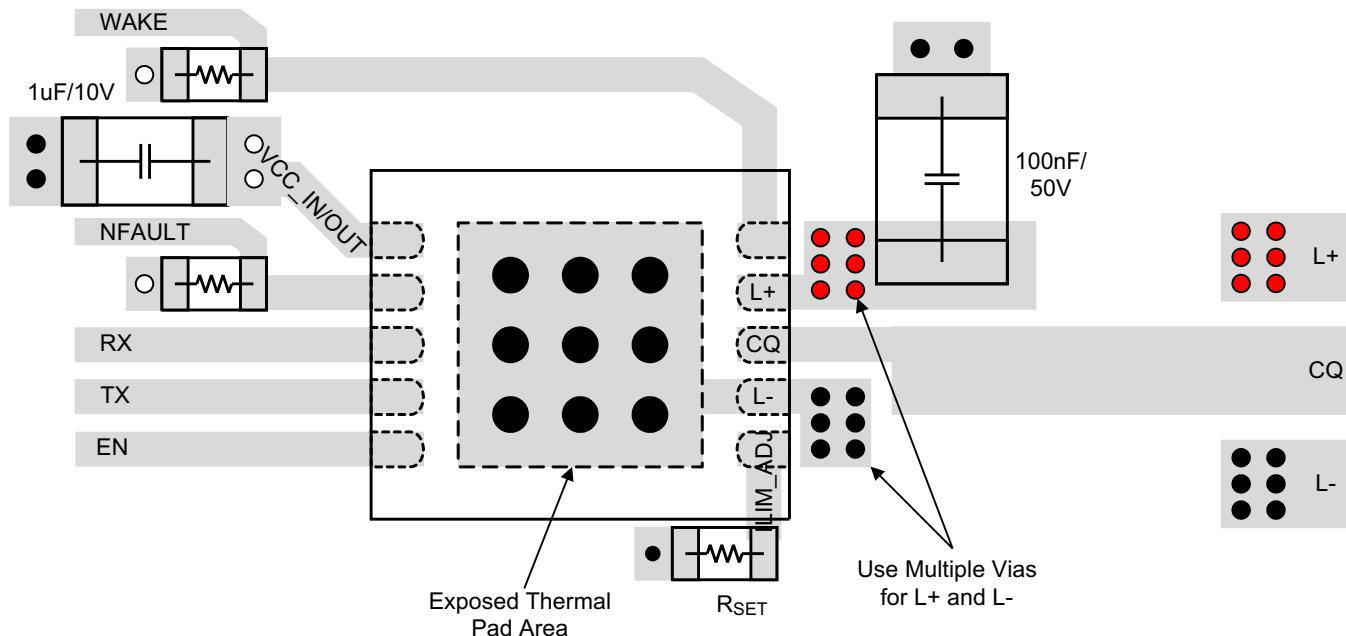

图 31. Layout Example
- The optimum placement of the capacitor is closest to the transceiver's L+ and L- terminals to reduce supply drops during large supply current loads. See 图 31 for a PCB layout example.